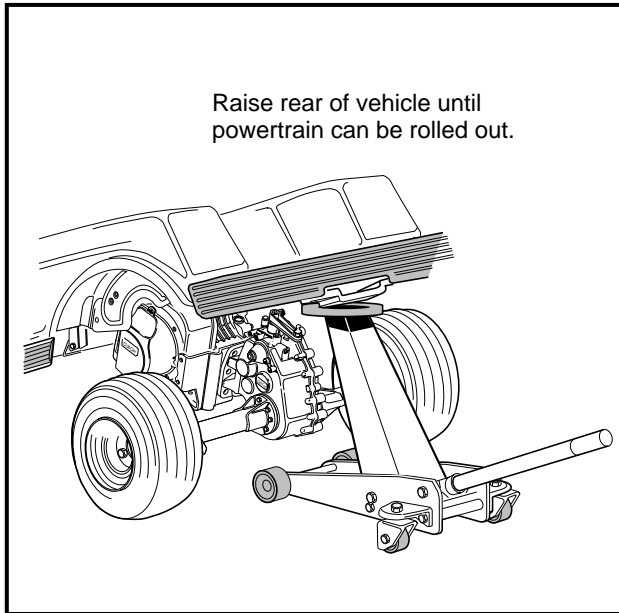

Figure 16-26 Raise Vehicle
9. Continue raising vehicle until frame or trailer hitch is higher than the top of the unitized transmission (enough to allow transaxle and engine to be rolled under and out of vehicle) (**Figure 16-26, Page 16-12**).